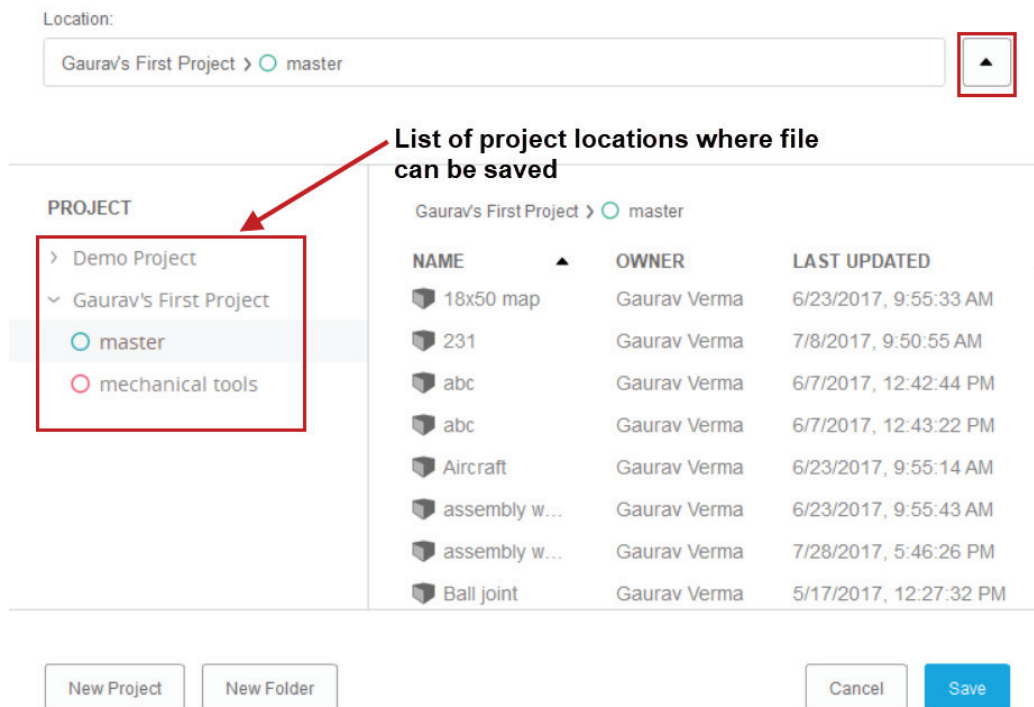

Figure-15. Locations to save file
- Click on the down arrow next to **Location** edit box in the dialog box. A list of locations available in Autodesk Cloud will be displayed; refer to Figure-15.